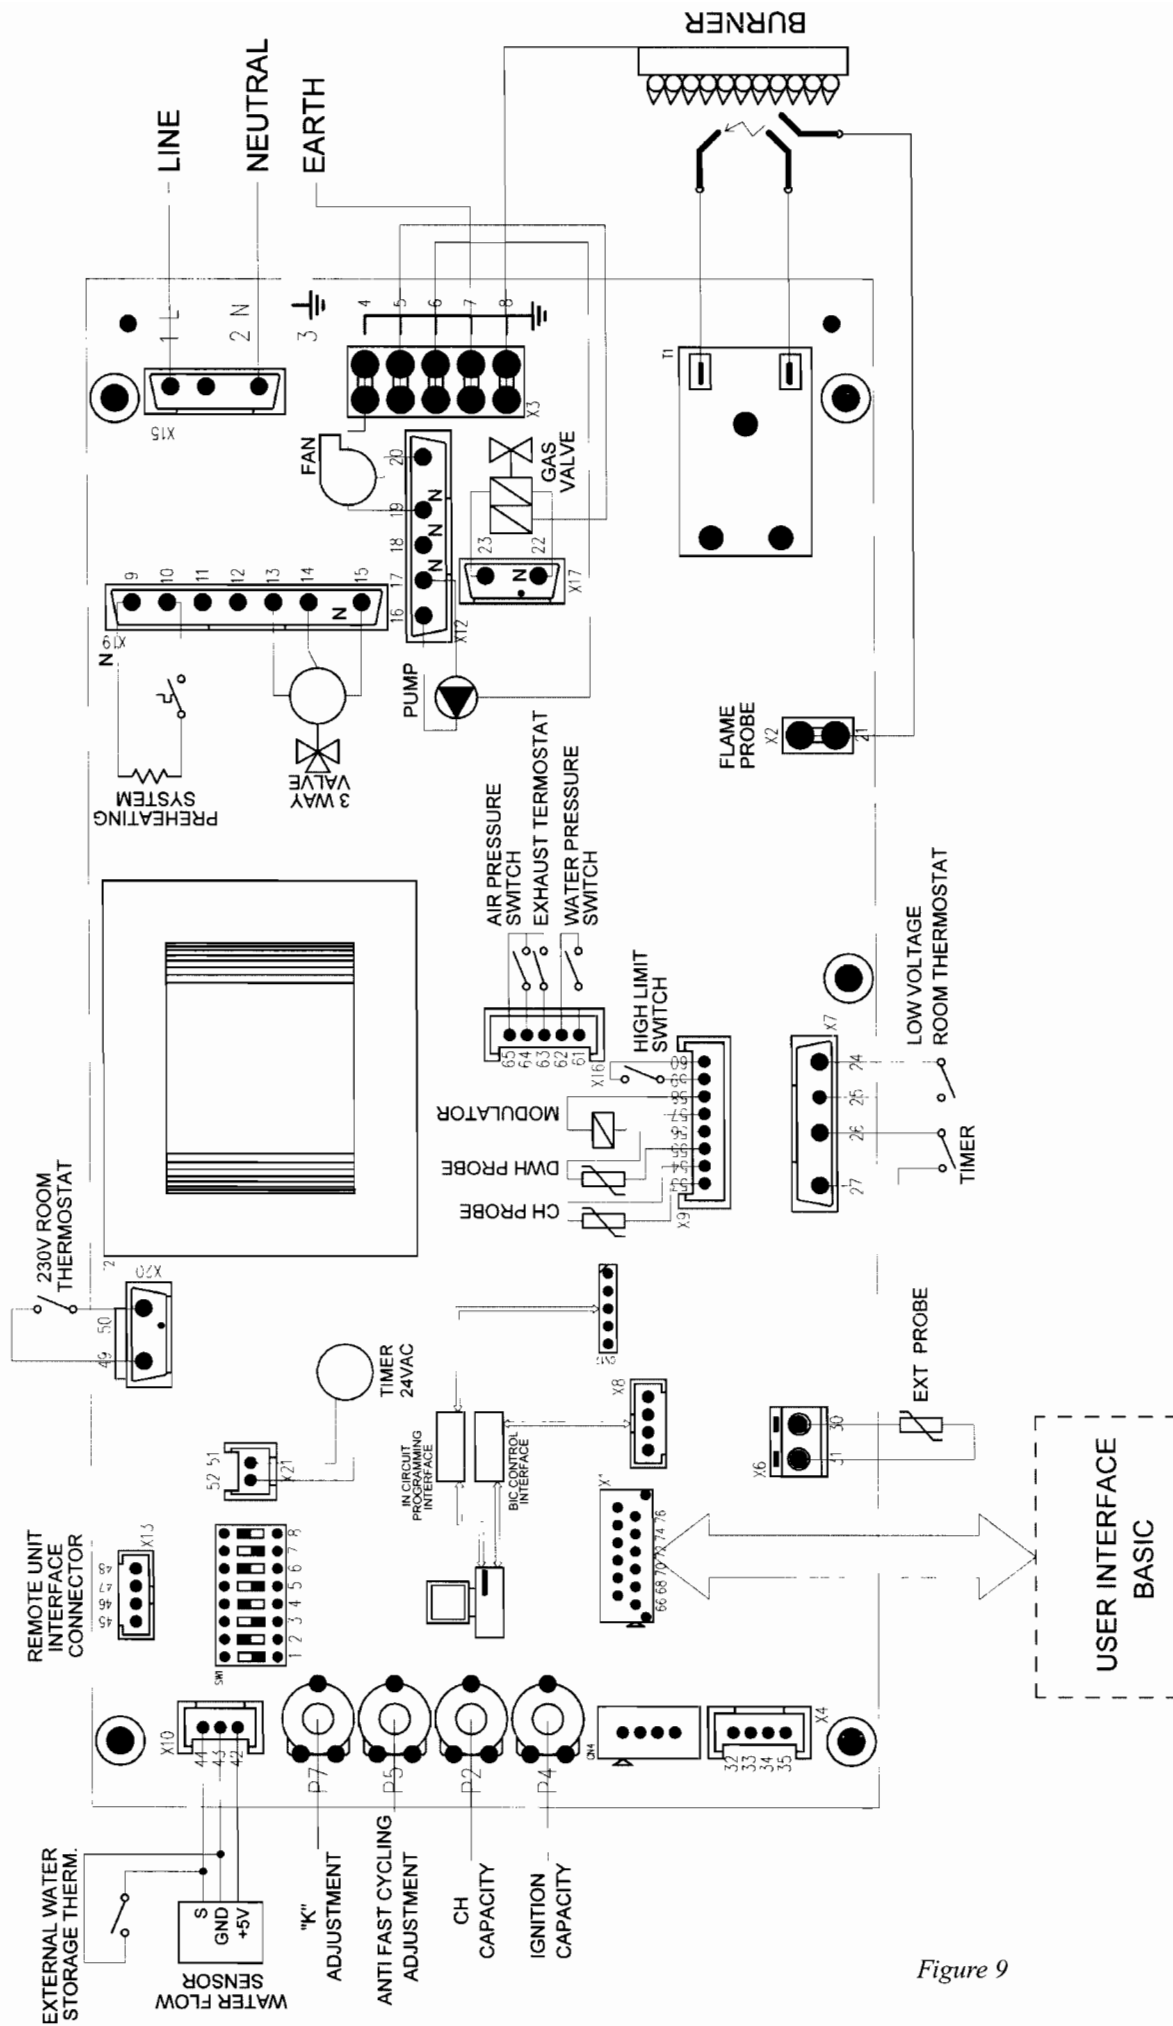

Figure 9
- 9.8 On connecting the mains electrical supply to the boiler, it is essential to ensure that electrical safety checks for earth continuity, earth resistance, polarity and short circuit are carried out prior to making the final connection. A diagram of the boiler's electrical circuit is given as *figure 9*.